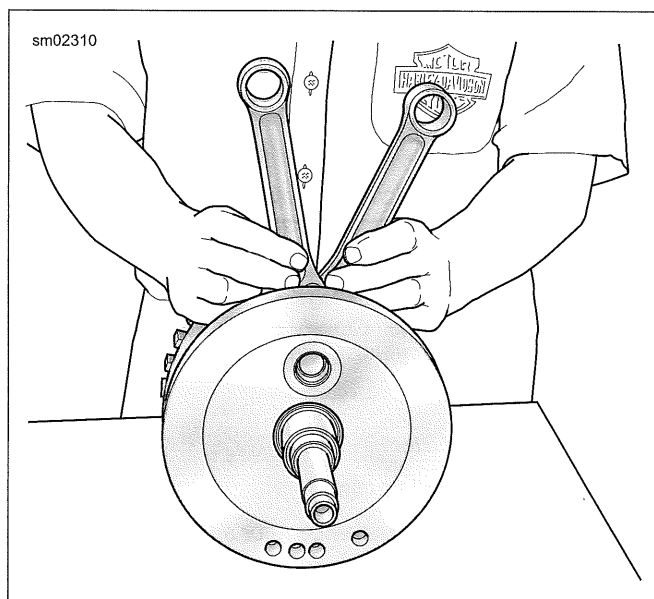

Figure 4-75. Connecting Rod Bearing Clearance
2. Check connecting rod bearing clearance. Place the assembly as shown in Figure 4-75 .